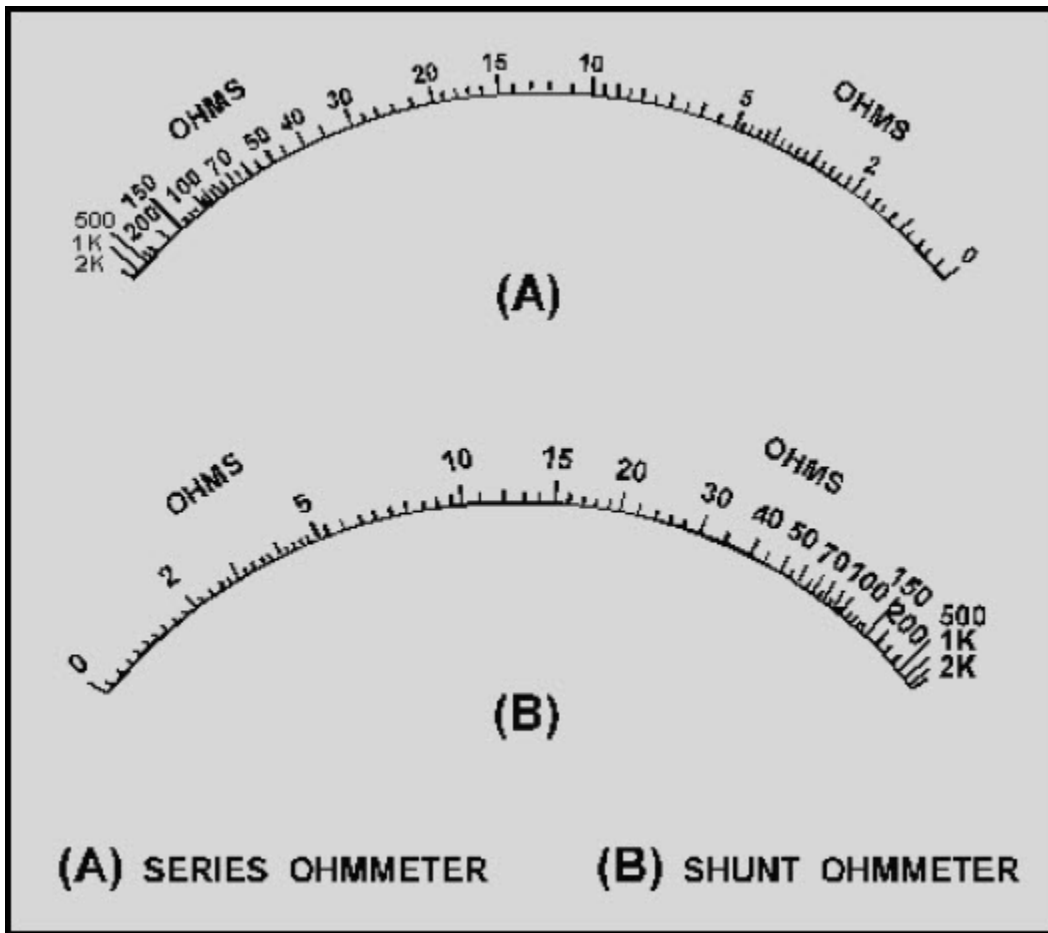
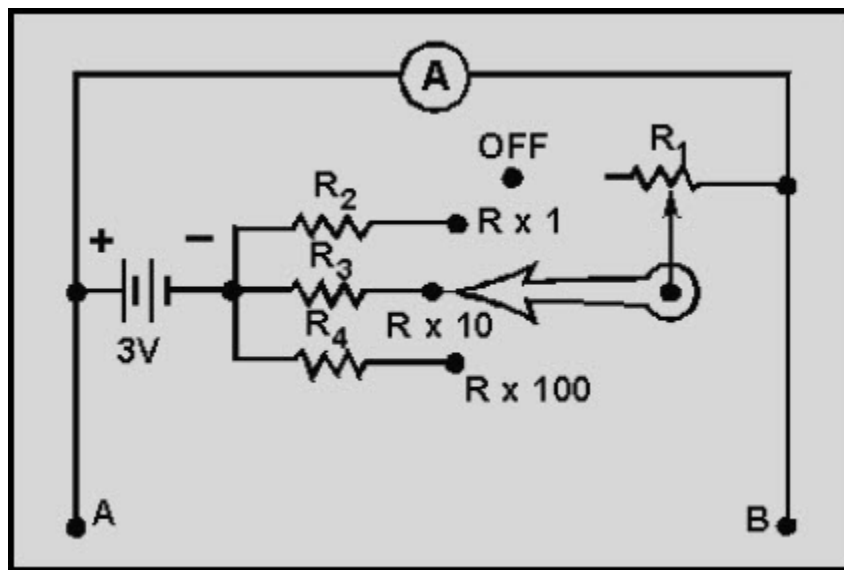

Figure 1-34 Series and shunt ohmmeter scales
Figure 1-35 A shunt ohmmeter with internal range resistors
The ohmmeter described to this point is known as a series ohmmeter, because the resistance to be measured is in series with the internal resistors and the meter movement of the ohmmeter. Another type of ohmmeter is the **SHUNT OHMMETER**. In the shunt ohmmeter, the resistance to be measured shunts (is in parallel with) the meter movement of the ohmmeter. The most obvious way to tell the difference between the series and shunt ohmmeters is by the scale of the meter. Figure 1-34 shows the scale of a series ohmmeter and the scale of a shunt ohmmeter.
Figure 1-34(A) is the scale of a series ohmmeter. Notice "0" is on the right and " ∞ " is on the left. Figure 1-34(B) is the scale of a shunt ohmmeter. In the shunt ohmmeter " ∞ " is on the right and "0" is on the left. A shunt ohmmeter circuit is shown in figure 1-35.
In figure 1-35, R_1 is a rheostat used to adjust the ∞ reading of the meter (full-scale deflection). R_2 , R_3 , and R_4 are used to provide the $R \times 1$, $R \times 10$, and $R \times 100$ ranges. Points A and B represent the meter leads. With no resistance connected between points A and B the meter has full-scale current and indicates ∞ . If a resistance is connected between points A and B, it shunts some of the current from the meter movement and the meter movement reacts to this lower current. Since the scale of the meter is marked in ohms, the resistance of the shunting resistor (between points A and B) is indicated. Notice that the switch has an **OFF** position, as well as positions for $R \times 1$, $R \times 10$, and $R \times 100$. This is provided to stop current flow and prevents the battery from being discharged while the meter is not being used.